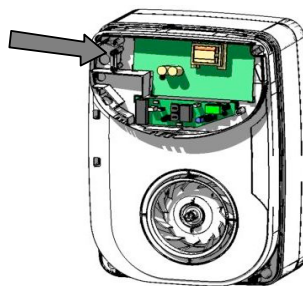

Figure 13.
11. Close Door and Connect flexible mains cable as described in section B – Wiring, ensure cable clamp is used adjust any settings as required see section C – Setup - Figure 13.